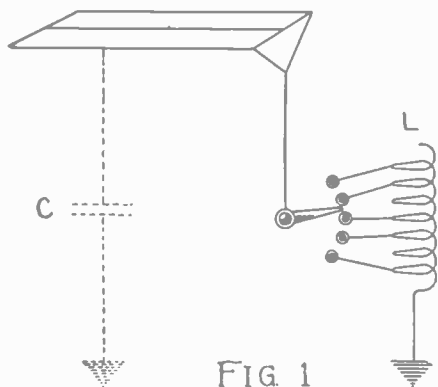

FIG 1
A. 2. These are merely the resonances obtaining in series and a parallel circuits, respectively. Fig. 1 indicates a case of series resonance. It represents the antenna circuit of a radio receiving station, the circuit being completely by the capacity of the antenna with respect to the ground. The radio waves induce an emf. into the antenna but the reactance of the circuit being very high, no appreciable current flows through the circuit. The operator now tunes the circuit by adjusting the coil L until maximum loudness of the signal is obtained. At this point the inductive reactance is exactly equal to the capacitive reactance, and resonance is established.